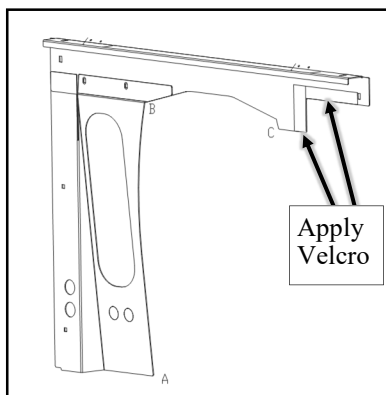

Fig. 4.2 (view from rear right side of tractor)
4.2 Install the supplied one inch regular bulb rubber from point A to B to C per fig. 4.2.
4.3 Apply 5/8" hook Velcro to the inside right corner per figure 4.2